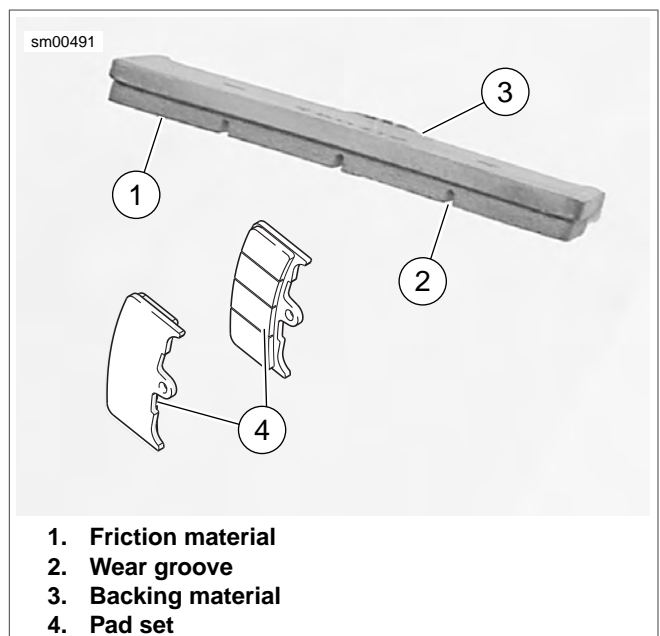

Figure 1-15. Brake Pads
See Figure 1-15. Inspect both front and rear brake pads for wear and damage. If the friction material (1) of a pad is worn past the wear grooves (2) or if a pad is damaged, replace both pads as a set.